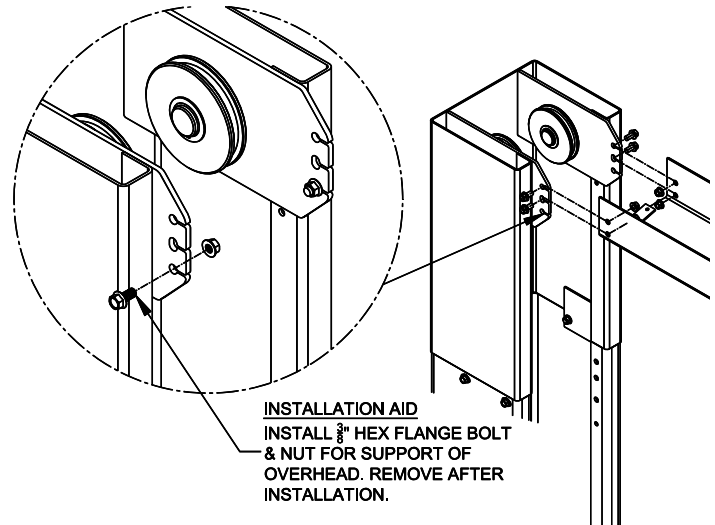

Fig. 4 – Overhead Assembly
- 12) Before raising overhead into position install 4 each (2 per column) hex flange bolts and nuts in bottom hole of column extension (**see Fig. 4 Installation Aid**) for temporary support of overhead. Lift overhead assembly up into position and install with 8 each (4 per column) 3/8"-16 x 3/4" lg. hex flange bolts and hex flange nuts per side as shown in **Fig. 4**.